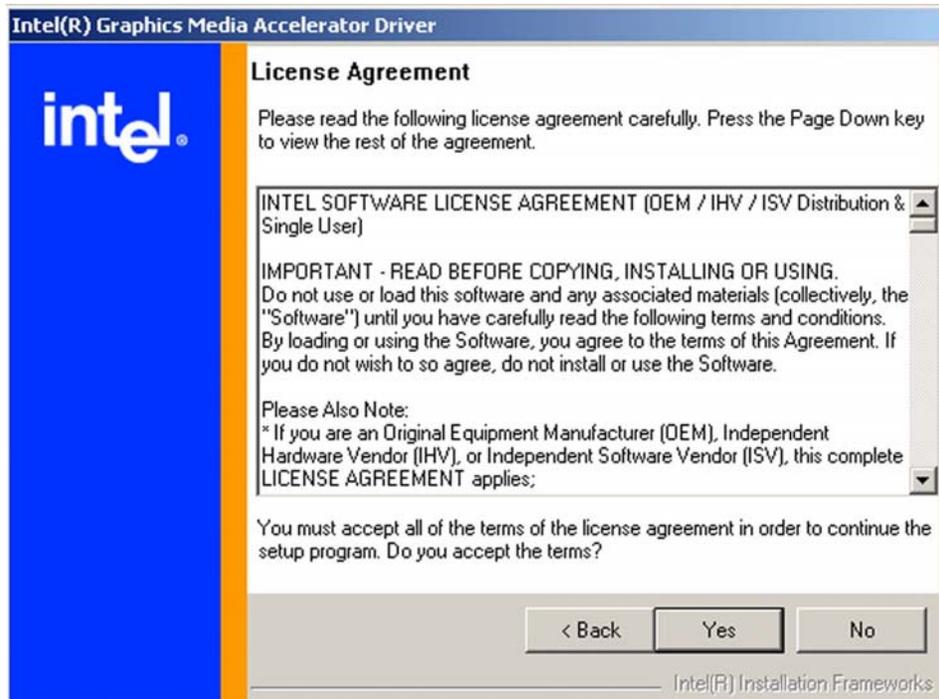

Figure 6-6: GMA Driver License Agreement
- Step 2:** Once you double click the **Setup** icon, a **Welcome** screen shown in **Figure 6-6** will appear.
Step 3: To continue installing click "**Next**" and a license agreement shown in **Figure 6-6** will appear. Read through the license agreement.
Step 4: If you choose to accept the terms and conditions stipulated in the license agreement shown **Figure 6-6**, click the “**YES**” button. The installation notice shown in **Figure 6-7** will appear.